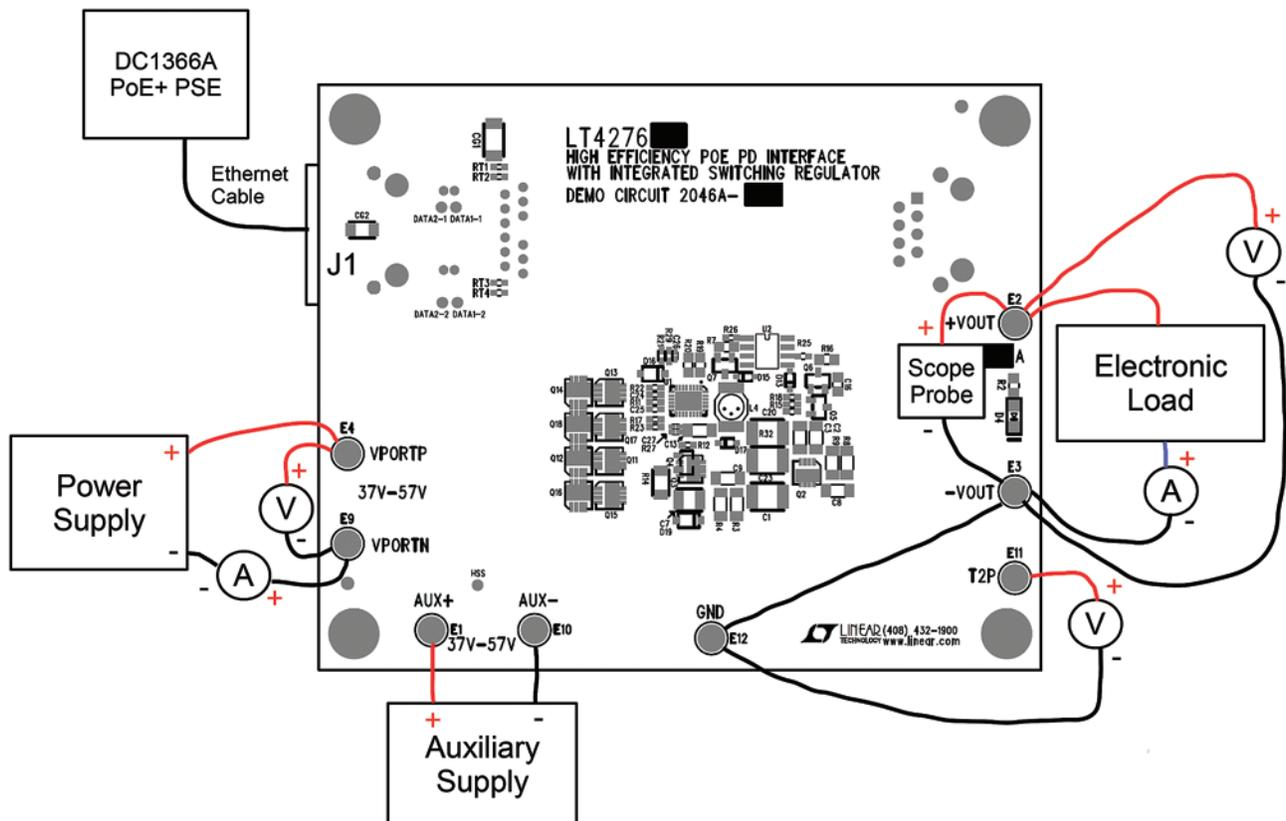

Figure 8. Proper Measurement Equipment Setup
Demonstration circuit 2046A-D is easy to set up to evaluate the performance of the LT4276 in a PoE+ application. Refer to Figure 8 for proper equipment setup and follow the procedure below:
1. Place test equipment (voltmeter, ammeter, power supplies, and electronic load) as shown in Figure 8.
- A) Connect a PoE+ capable PSE with a CAT-5 cable to the RJ45 connector, J1. See Figure 8.
- B) Or, connect a 37V to 57V capable power supply (Power Supply in Figure 8) across V_{PORTP} and V_{PORTN} .
- C) If evaluating the auxiliary power supply (Auxiliary Supply in Figure 8), connect a 37V to 57V capable power supply across AUX+ to AUX-.